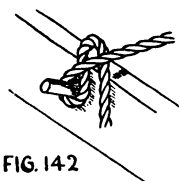

FIG. 142
**Slippery Hitch.** The slippery hitch can only be used when there is a steady pull. Its value consists in the readiness with which it can be cast off in cases of emergency. A sharp pull on the end of the rope loosens it. The method of making the hitch may be seen from the illustration (fig. 142).